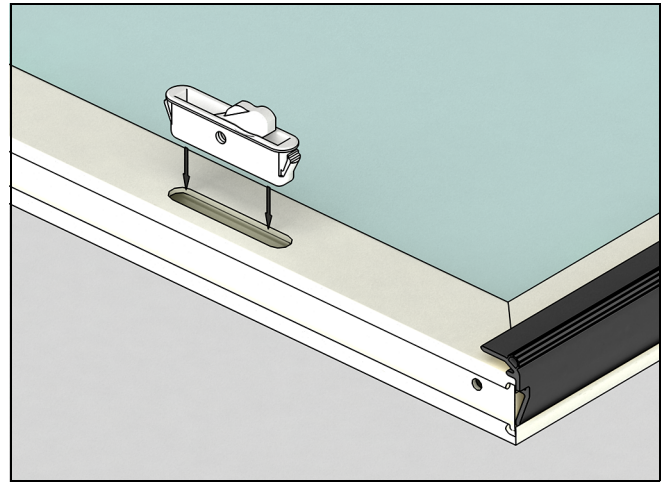

Figure 5
14. Insert the WOCD's into the routes in the top sash at an angle with the orange dot on the bottom. Snap the WOCDs into the routes on the stiles. Be sure the WOCD is flush with the surface of the stile. See Figure 5.